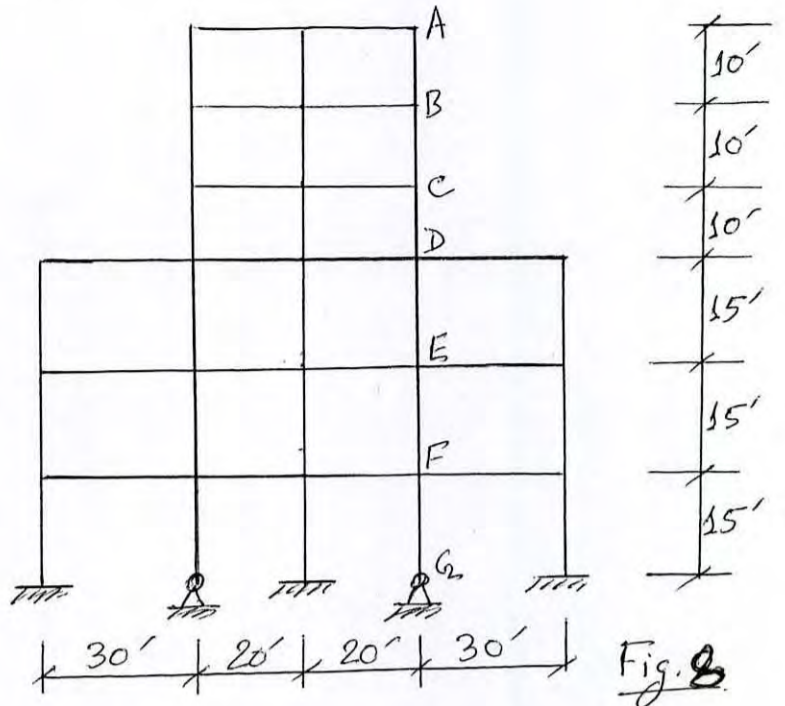

Fig. 8
10. The building frame shown in Fig. 8 carries a uniform vertical load of 2 kip/ft of each girder. Using approximate method draw axial force and bending moment diagrams for the column ABCDEFG. The column has constant cross section over its height. Draw moment diagrams on compression side. **(28)**